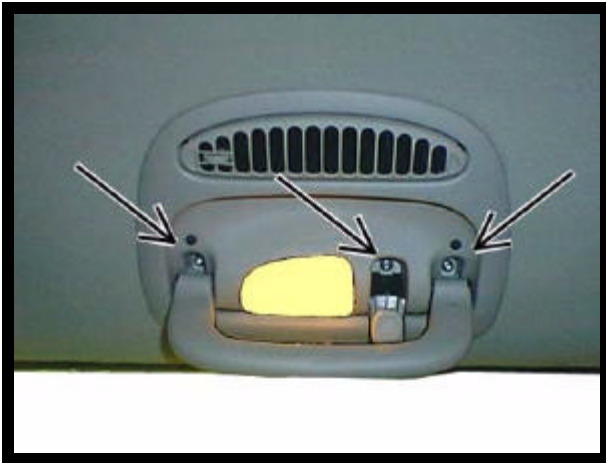

FIGURE 1
1. Remove and retain (3) three screws which secure dome light in place. See Figure 1.